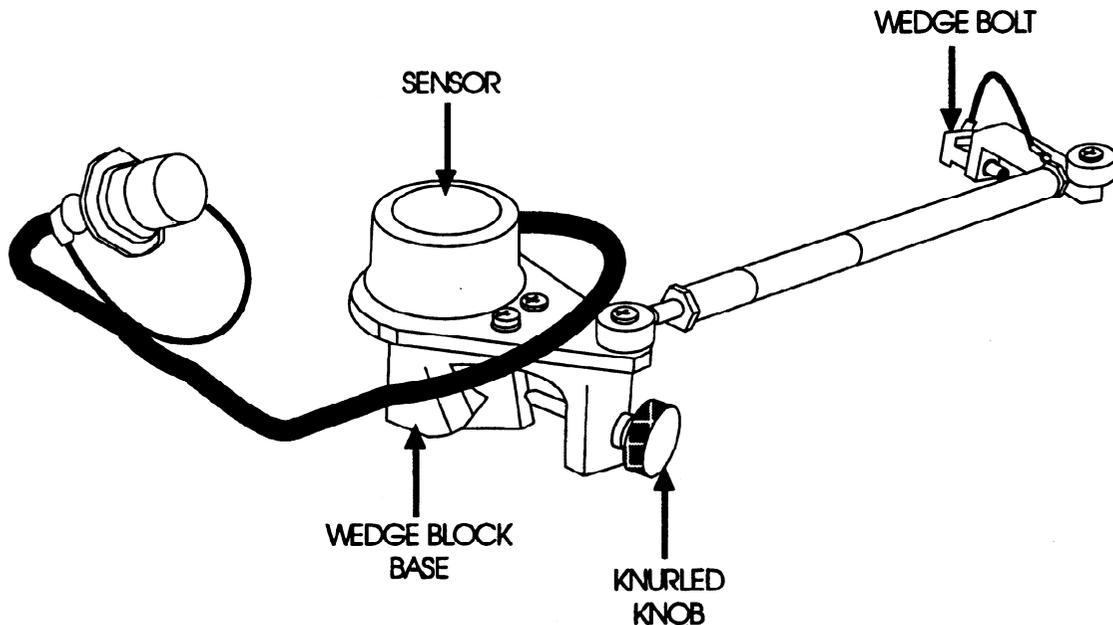

Figure 2-54 Steering Sensor
2.4.7.4.4.2 Steering Sensor Installation. The steering sensor senses how far and in which direction the Steer-Throttle Control has been turned. Install the steering sensor, shown in Figure 2-54, as follows: